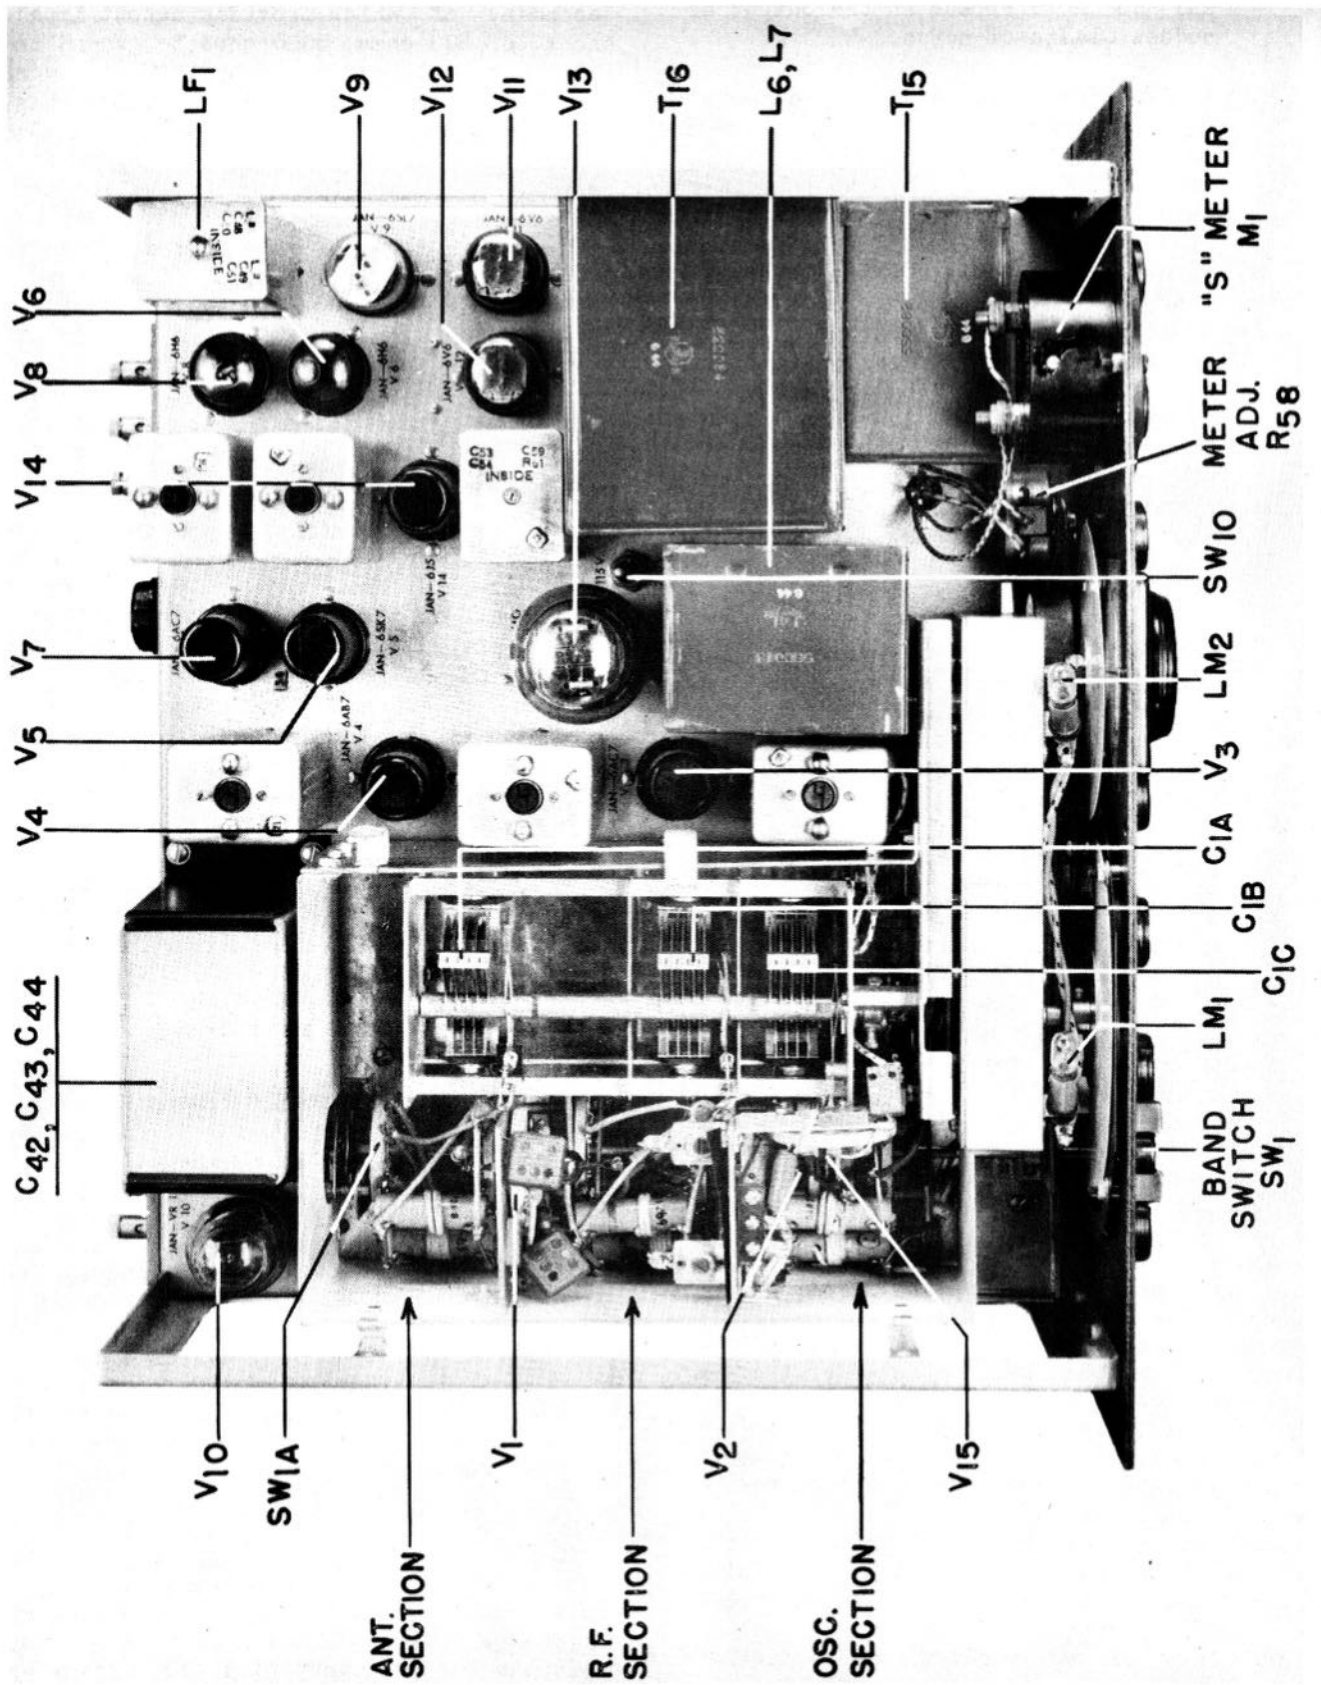

Figure 4. Radio Receiver CHL-46130-C, Top View Of Chassis
c. All tubes with the exception of the three acorn type tubes can be reached from the top of the chassis. Acorn tubes V₁, V₂ and V₁₅ are reached by removing the top cover plate of the r-f sections. See figure 4 for location of all tubes.
a. See that the tubes are secure and in their proper sockets. Reference to figure 4 will show their proper location. The three acorn type tubes are made accessible by removing the shield cover over the r-f section.